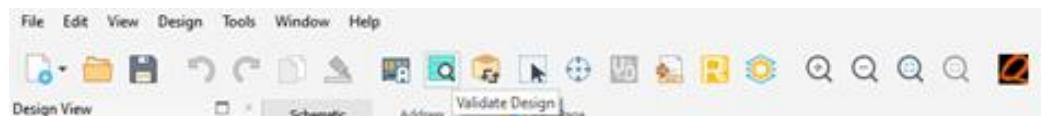

Figure 9.4. Validate Design Again if Any IP is Updated
5. Click the **Validate** button as shown in Figure 9.4. Ensure that there are no errors.